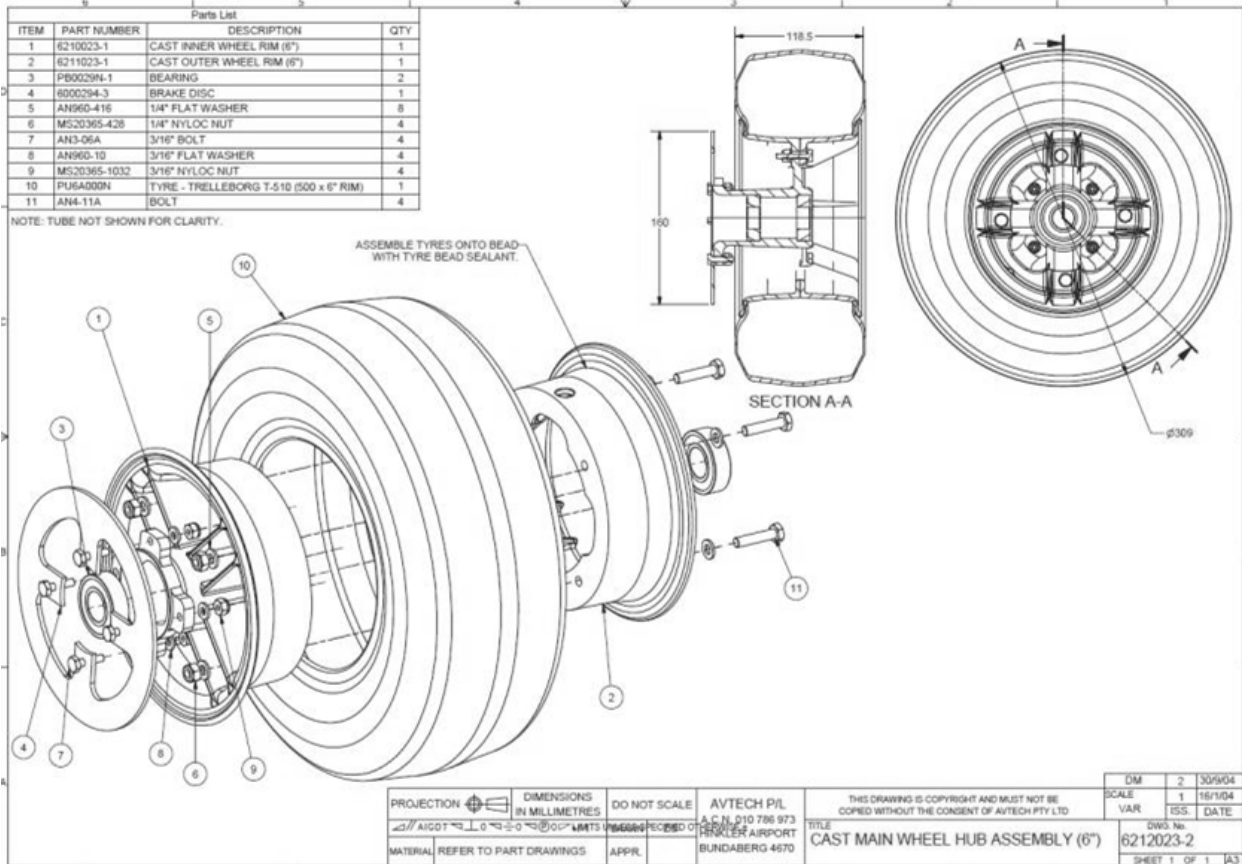

Figure 44 – Main Wheel Assembly
- Figure 44 shows a typical wheel assembly. While details and part numbers vary from model to model the general arrangement shown applies to all aircraft.